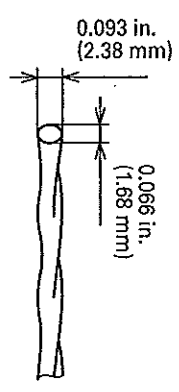

Fig. 10
Cord diameter: Fig. 10
- (1) Prepare 6.56 ft. (2 m) of genuine nylon line in Fig. 10. (Code No.334128)